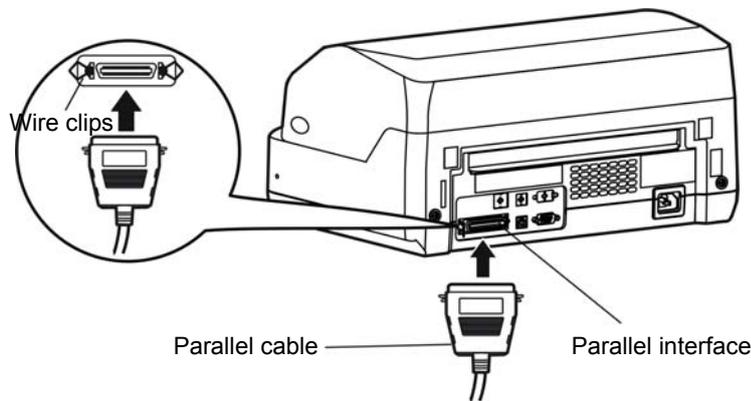

Figure 2-15 Connecting the parallel cable
The printer can be configured with parallel interface, USB interface, serial interface or Ethernet interface (Please take the specific interface as standard.). Please connect your computer and the printer with respective interface cable. (As Figure 2-15, 2-16, 2-17, 2-18 shown)
1. Turn off both the computer and the printer. Plug the parallel cable connector securely into the printer's parallel interface. Squeeze the wire clips together until they lock in place on either side of the connector. (As shown in Figure 2-15)